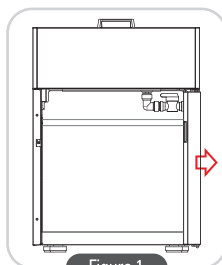

Figure 1
1. Open the front bottom door. (※It will not work if you do not open the bottom door) ※See figure 1